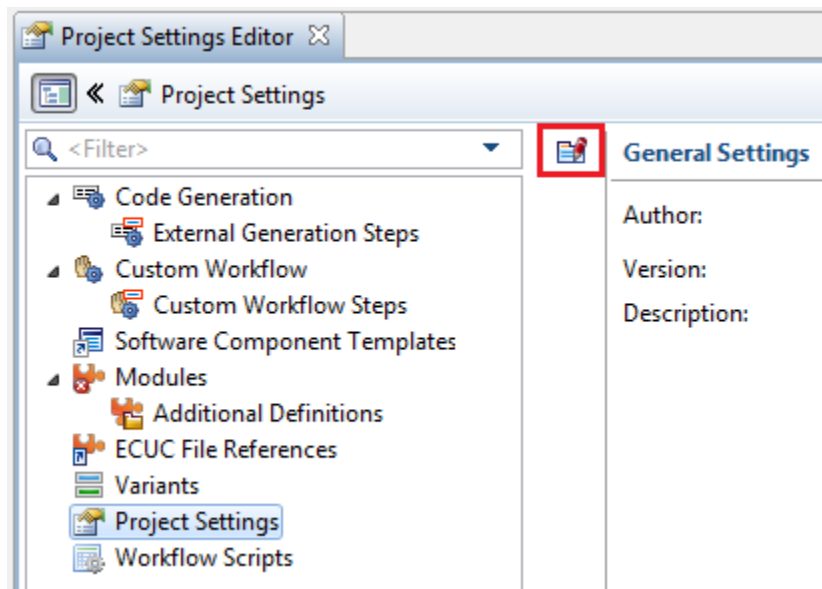

Figure 3-14 Button for editing the project settings
- Open the project settings and click the button shown in Figure 3-14 to edit the project settings.